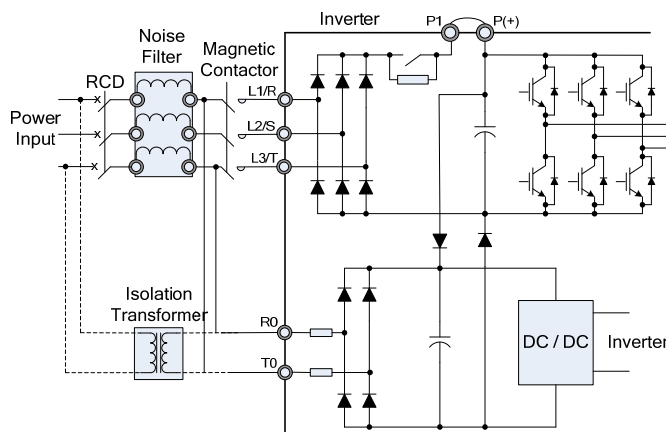

Fig. 2-3-2 Connecting the Auxiliary Control-Power Input Terminals
The inverter will operate even if power is not provided to these terminals. If a protective circuit is activated and the magnetic contactor on the inverter power input side is opened (off), the inverter control circuit power, the alarm output (30A, B, and C), and the keypad display will lose power. To prevent this, the same AC power as supplied to the main input circuit must be supplied (as auxiliary control power) to the auxiliary control - power input terminals (R0 and T0). (see Fig. 2-3-2)
b. When the RCD (Residual-current Protective Device) is installed (30HP/CT, 40HP/VT or less), the terminal R0 and T0 should be connected to the output side of the RCD. If they are connected to the input side, the RCD will malfunction because the power supply of the inverter is three phase and the R0 and T0 input is single phase. If it is required to connect terminals R0 and T0 are to the input side of the RCD, an isolation transformer is required as shown on the Fig. 2-3-2.